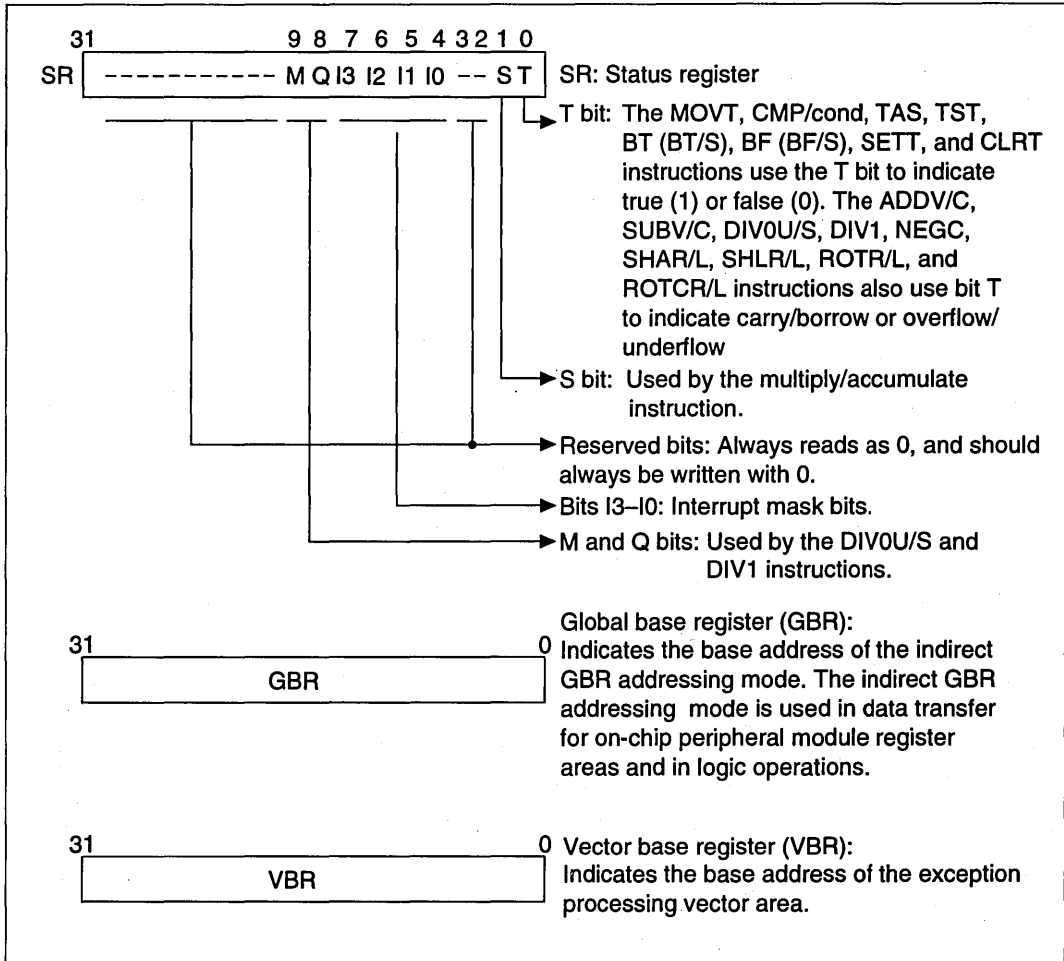

Figure 2.2 Control Registers
The 32-bit control registers consist of the 32-bit status register (SR), global base register (GBR), and vector base register (VBR) (figure 2.2). The status register indicates processing states. The global base register functions as a base address for the indirect GBR addressing mode to transfer